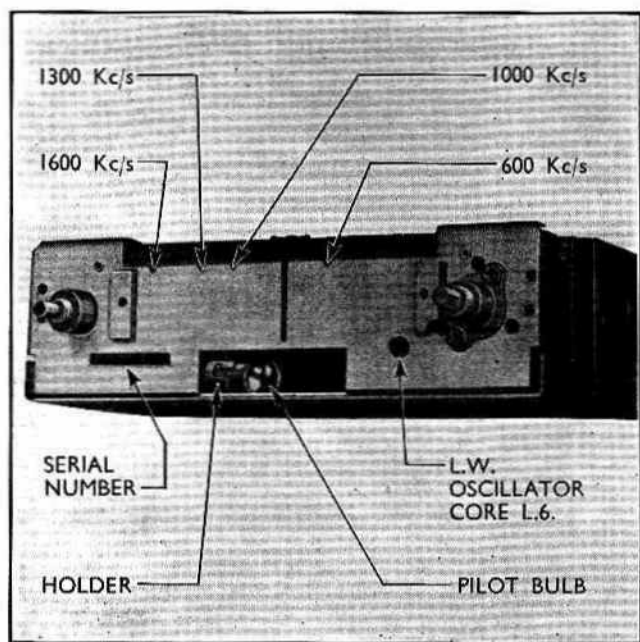
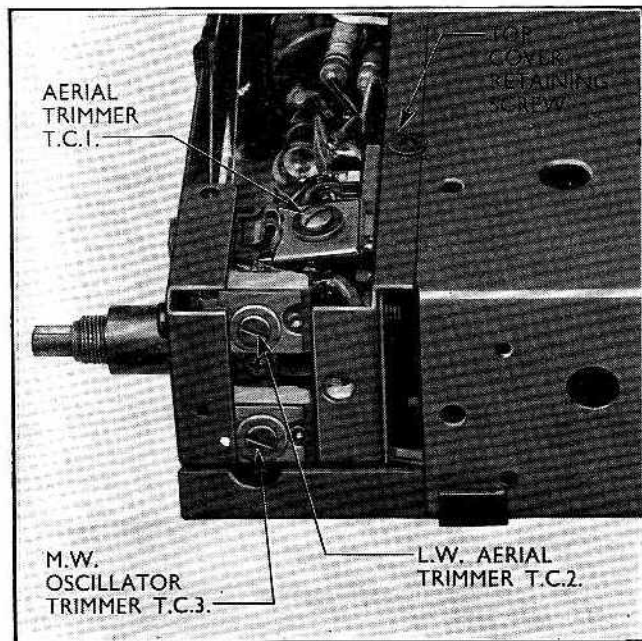

Fig. 612
Fig. 613
- 2 Temporarily secure the top cover under the heads of the cover screws in the R.F. and Tuning unit, see Fig. 613.
For all subsequent operations the signal generator must be connected to the aerial socket via a 15 pF condenser with a 60 pF condenser connected between the aerial socket and earth. Calibration marks are provided on the front plate and are identified on Fig. 612.
- 1 Tune the receiver to the 1600 Kc/s calibration mark on the medium waveband end of the scale. Inject 1600 Kc/s to the aerial socket and adjust trimmers TC3 and TC1 respectively for maximum output, see Fig. 613.
- 4 Tune the radio to the long waveband (right-hand end of the scale). Inject a signal of the frequency of the required station to the aerial socket and adjust the cores of L6 (Fig. 612) and the trimmer TC2 (Fig. 613) for maximum output.